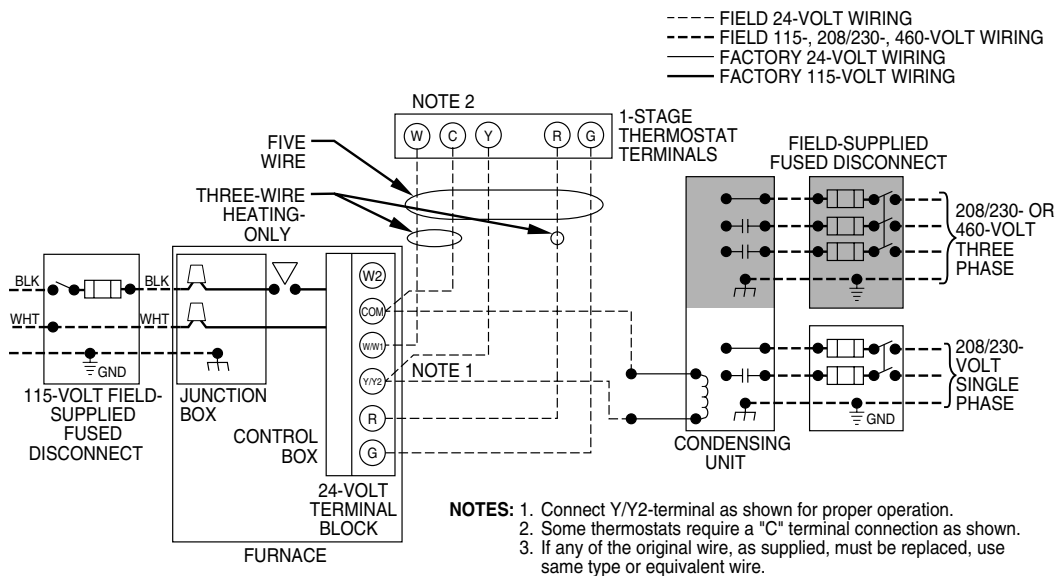

Fig. 22—Field Wiring Diagram
See Fig. 22 for field wiring diagram showing typical field 115-v wiring. Check all factory and field electrical connections for tightness.
5. Connect line voltage leads as shown in Fig. 22.
12. Complete electrical box wiring and installation. Connect line voltage leads as shown in Fig. 22. Use best practices (NEC in U.S. and CSA C22.1 in Canada) for wire bushings, strain relief, etc.